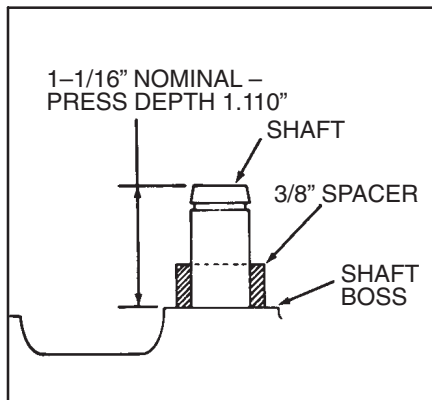

Fig. 46 Balance Shaft Installation
2. Use a press to install the new shaft. The shaft must be 110° above the boss (Fig. 46).